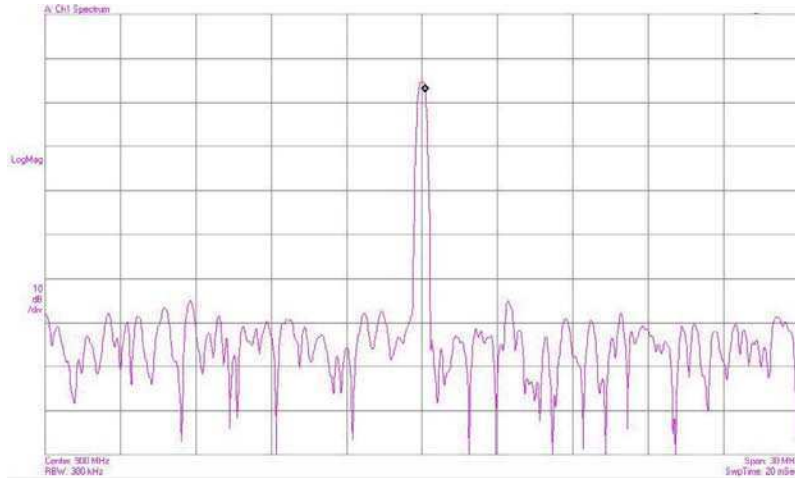

Figure 1-15: Spectrum Analyzer Output Signal of SR5500 at 900 MHz
6. The output signal should be about **-60 dBm**, as shown in Figure 1-15.